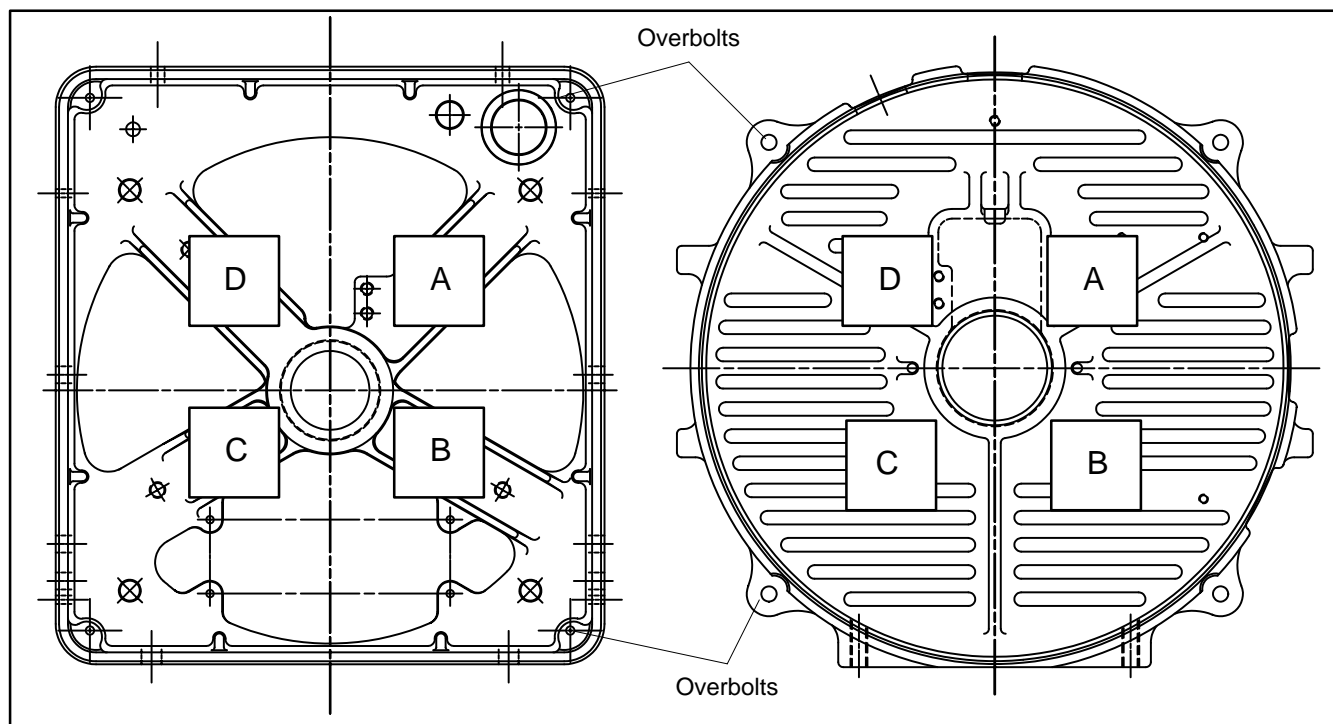

Figure 1. Aluminum End Bracket
3. Use a hard rubber or dead-blow hammer to alternately strike end bracket with medium force blows. Use the sequence shown in Figure 1 (use applicable illustration) to install end bracket.